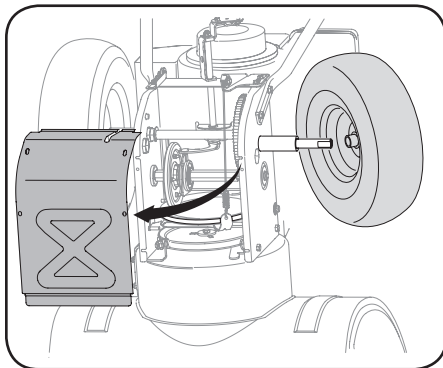

Figure 4-20
4. Remove frame cover from underside of unit by removing self-tapping screws which secure it. See Figure 4-4. Remove right-hand wheel by removing screw and bell washer which secure it to axle. See Figure 4-20.